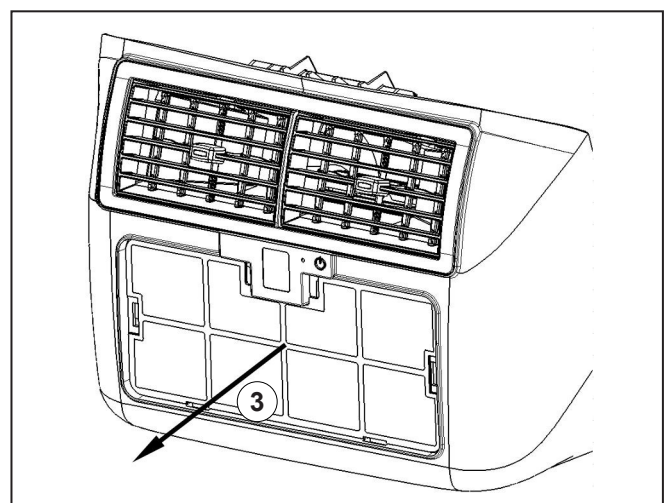

Fig. 8
2. Remove the filter ("Fig. 8" ref.3).
3. When maintenance tasks have been completed re-insert the filter ("Fig. 8") and close the press-on front grille